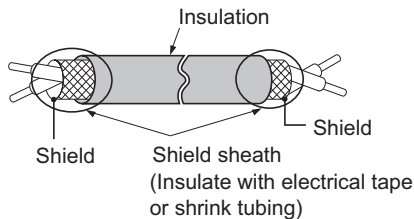

Figure 23 Prepare Ends of Shielded Cable
1. Prepare the communication cables as shown in **Figure 23**.